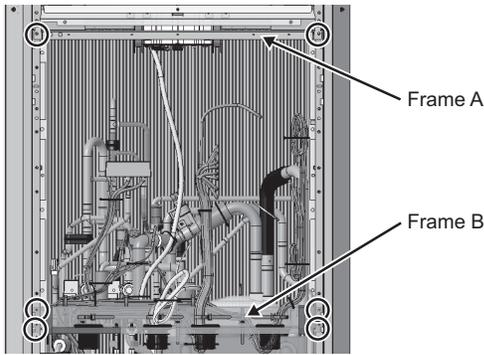

Fig. 4
(4) Remove the wires that are secured to frame B and remove frames A and B. (Six screws: Fig. 4)